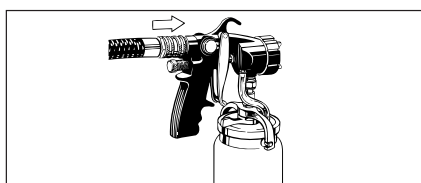

Figure 10 - Attaching The Air Hose
**NOTICE** The quick-connect fitting outer sleeve is spring loaded and must be pulled back to attach or remove it from the gun (See Figure 10).